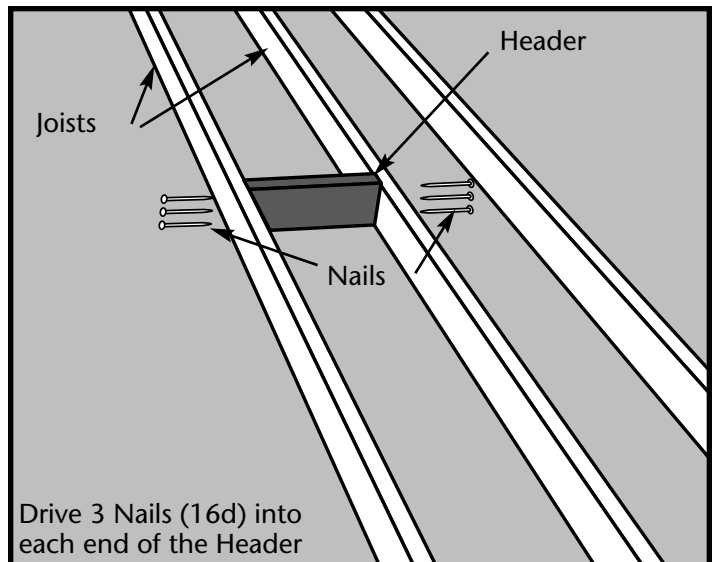

Figure 13
- STEP 3.** Place one of these headers at one end of your chosen location (Figure 13). The header must fit snugly between the joists. Hammer it into position if necessary; if it is more than 1/16 inch too long, trim it. If it is more than 1/16 inch too short, cut another piece.
- STEP 4.** Square the header to one joist and drive 3 nails (16d) through the joist and into the header. Check for squareness and drive 3 nails (16d) through the other joist and into the header (Figure 13).